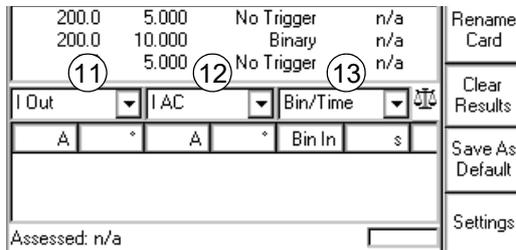

Figure 9-18: Step 3 - Specify the values that the measurement table will eventually show
The availability of the trigger signals depends on the selected values set at (11) and (12) of the measurement table (refer to Figure 9-18).